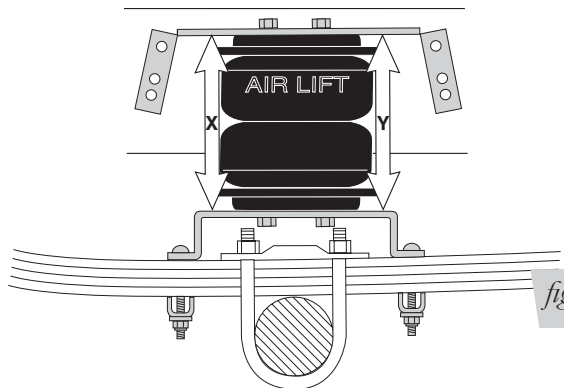

fig. 7
8. Check the upper to lower bracket measurement to ensure that it is still between 4.5" to 6.5" on the side of the center punched hole (in Figure 7, measurement X must equal measurements Y, as well as between 4.5" to 6.5").
1. Measure the upper to lower bracket clearance on the other side of the upper bracket. This measurement should be equal to the measurement of the other side of the upper bracket (in Figure 7, measurements X must equal measurement Y, as well as be between 4.5" to 6.5").